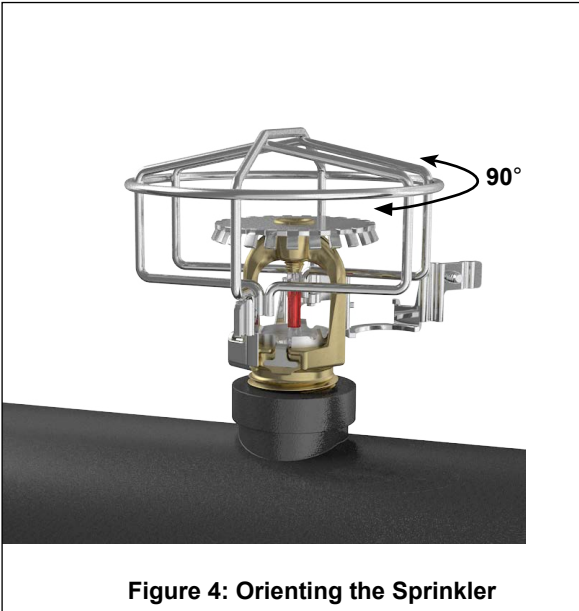

Figure 4: Orienting the Sprinkler
- 4. Once the sprinkler is inside the frame and the guard is properly oriented, rotate the guard 90 degrees in either direction so the activation element T-hinge is not blocked. See Figures 4 and 5.